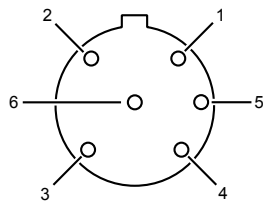

Figure 1-10 Keysight 8120-1082 Power Sensor Cable End View
- 2 Set the Keysight 34401A Digital Multimeter to measure resistance, and connect the DVM test prods between the center pin of the V_{RF} connector on the Keysight 432A Power Meter rear panel and pin 1 on the thermistor-mount end of the Keysight 8120-1082 Power Sensor Cable (see Figure 1-10 to locate pin 1).